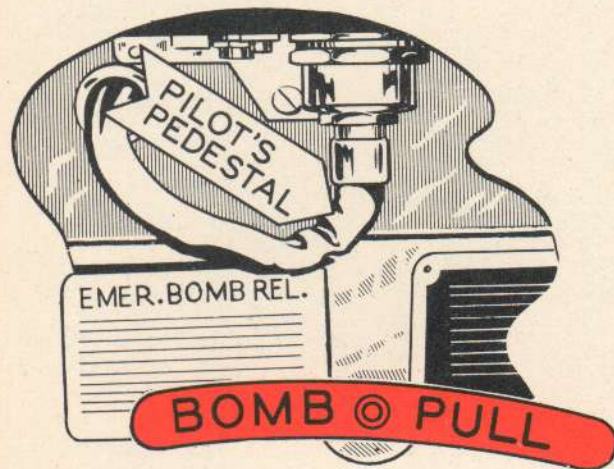

Figure 56D—Pilots' Emergency Bomb Release
2. Pull the "BOMB PULL," emergency bomb release (red) handle, at the rear of the pilots' pedestal (see figure 56D). Pull upward on the handle until motion is stopped. Keep the handle pulled upward under tension. As soon as the bomb doors are fully opened, a further upward pull will be possible which will release the bombs.